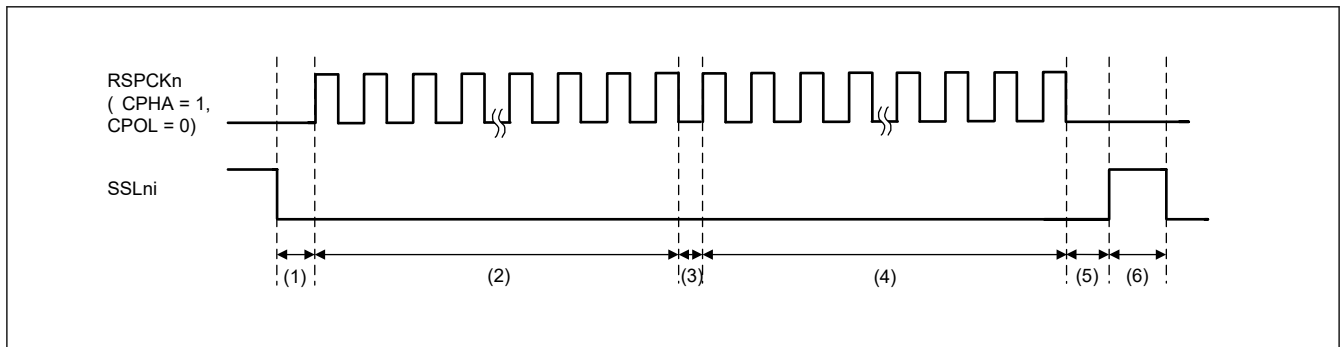

Figure 43.61 Example of Burst Transfer Operation Using SSLKP Bit (BFDS = 1, SPFRF = 0)
Figure 43.61 shows an example of SSLni signal operation when burst transfer is achieved by using the settings of SPCMD0 and SPCMD1. The following describes SPI operations of (1) to (6) shown in Figure 43.61. The SSLni output signal polarity depends on the set SPI SSLi signal polarity bit (SPCR3.SSLiP) (i = 0 to 3) value.